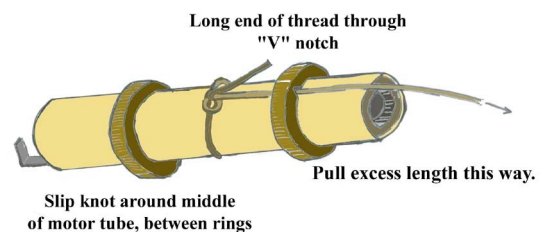

Figure 4
- **Step 5** Tie a slip knot around the middle of the engine mount using the Kevlar thread, as shown in Fig. 4. Push the free end of the Kevlar thread through the "V" notch in the forward ring, pulling the excess all the way forward as you slide the loop up against the back of the ring. Secure this loop to the mount with a layer of thinned glue, then set aside to dry.